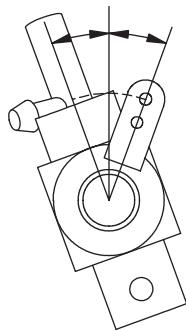

Figure H-7A
- 1. Install the carburetor to the engine as per the instructions supplied with the engine. The carburetor throttle arm should be on the left side of the engine as shown. Check that the arm has equal throw from center, as shown in Figure H-7A. If the arm rotates more in one direction, loosen the nut securing the arm and re-position the arm.